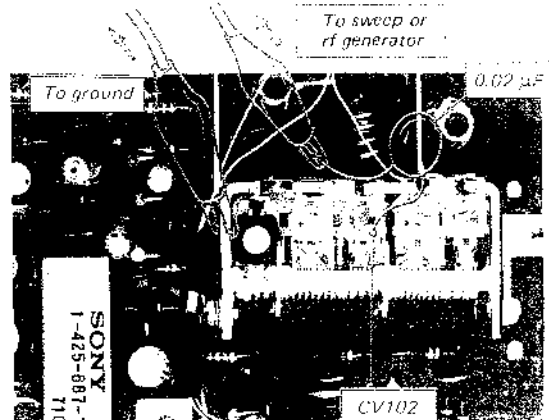

Fig. 3-4. 10.7 MHz signal injection
- Connect the output cable of the generator across CV102 on fm (a-m) front end/i-f amp/MPX board. Use alligator clips and make the connection through a 0.02 μF coupling capacitor as shown in Fig. 3-4.